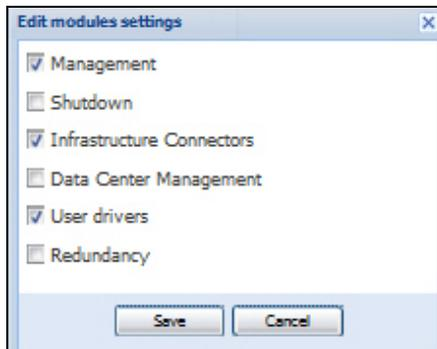

Figure 83. Enable Infrastructure Connectors Setting for Virtualization
2. Click **Edit modules settings** in the right panel. The Edit modules settings dialog box displays (see Figure 83).